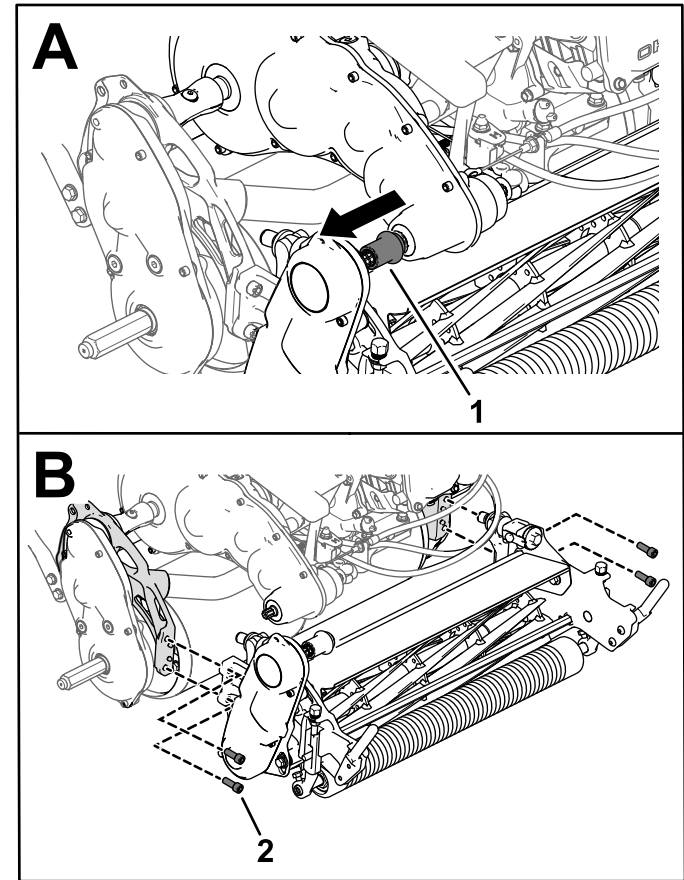

Figure 50
- 3. Release the cutting-unit-drive coupler from the transmission driveshaft (Figure 50).
- 4. Remove the socket-head screws that secure the cutting unit to the frame (Figure 50).